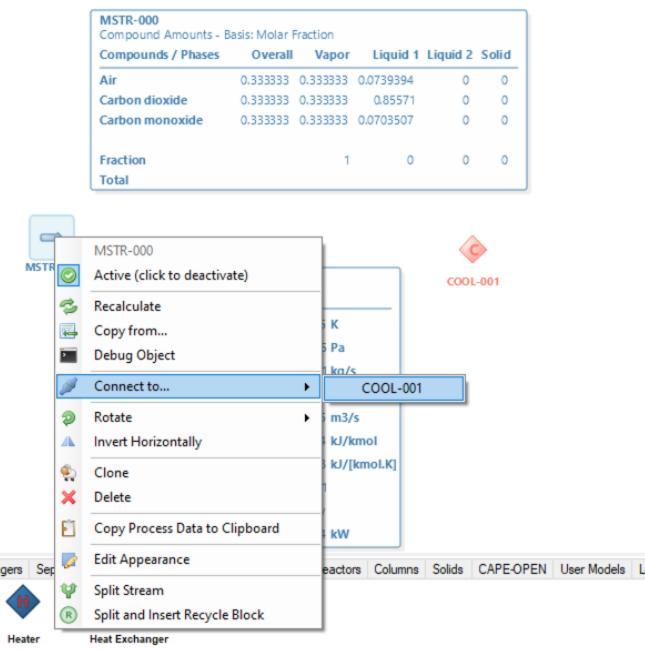

Figure 21: Selected object context menu.
- Through the context menu activated with a right mouse button click over the object (Figure 21);
**Removing objects from the flowsheet** The selected object can be removed from the flowsheet by pressing the DEL keyboard button or by using the context menu - "Delete" item (Figure 21).